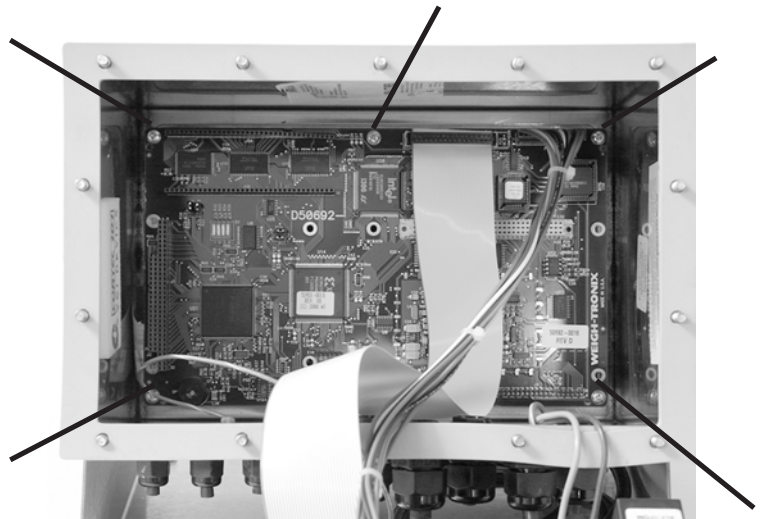

Figure 13
4. If you need to remove the main board, disconnect the cables from the main board. Remove the six hold down screws on the board, as shown in Figure 13 and pull out the main board. The sixth screw is located under the ribbon cable in the photograph. Take care because there is a hidden connector between the main board and the display board beneath it. Disconnect this by pulling the main board straight back from the display board.